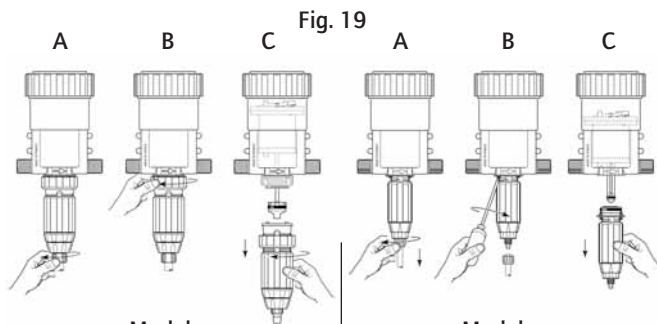

Fig. 19
- Take off the suction hose of product (Fig. 19 A), and the external injection hose for IE model.
- Unscrew the injection part by hand or by means of a long cruciform screw driver, according to the dispenser type (Fig. 19 B).
- Pull downwards to remove the injection part (Fig. 19 C).